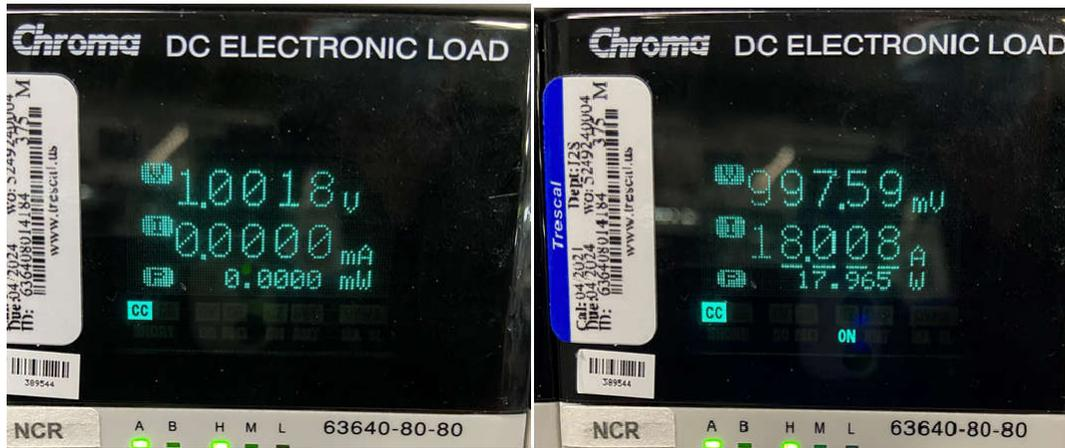

Figure 4-1. Output Voltage Regulation
2. Turn on the e-load and sweep load current from 0A to 18A. The monitored output voltage at TP12 (VOUT) is at or near 1V across the entire current load sweep as shown in Figure 4-1.